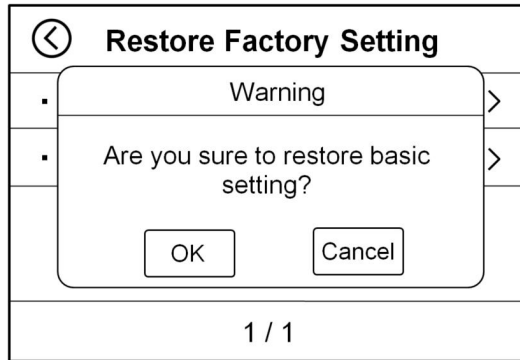

Figure 68
4) **“Restore Basic Setting”**: Restore the basic settings to factory settings. If the customer has modified the basic settings of multiple machines (such as the buzzer, baud rate, coin counting alarm function, etc.), and now needs to restore the factory settings, this function can be used. After using this function, the machine needs to be restarted. As shown in Figure 68 below.